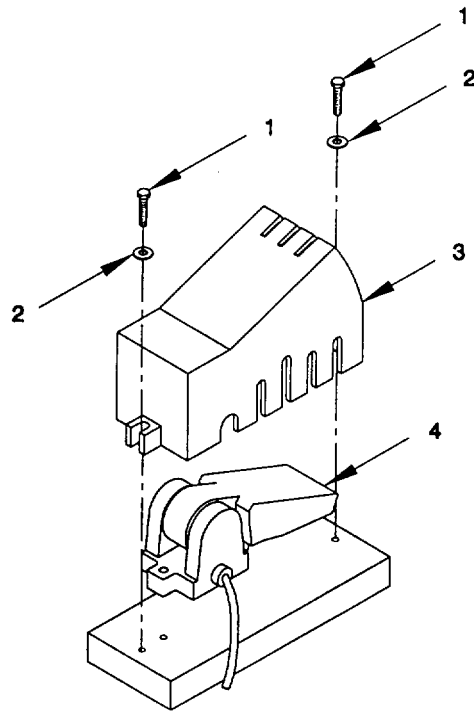

Figure 2-29. Float Switch w/Guard, Bilge, Remove/Install
- a. Remove. (figure 2-29)
- (4) Remove float switch (4).
- b. Install. (figure 2-29)
- (1) Install new float switch (4) and reconnect wires, as tagged, to float switch (4). Refer to Appendix G.
- (2) Apply thread sealant to threads of two hex head machine screws (1).
- (3) Install new float switch cover (3) on foundation over float switch (4). Secure cover with two flat washers (2) and two hex head machine screws (1).
- (4) Test operation of switch and bilge pump in accordance with paragraph 2-35.